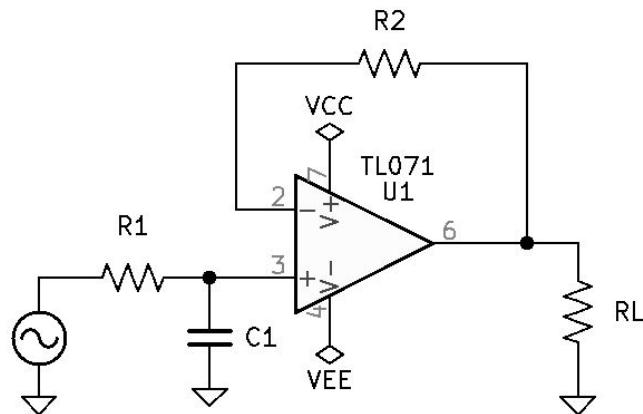

Figure 8.3: Low-Pass First-Order Active Filtering Circuit.
1. See Figure 8.3 *Low-Pass First-Order Active Filtering Circuit* on page 86.